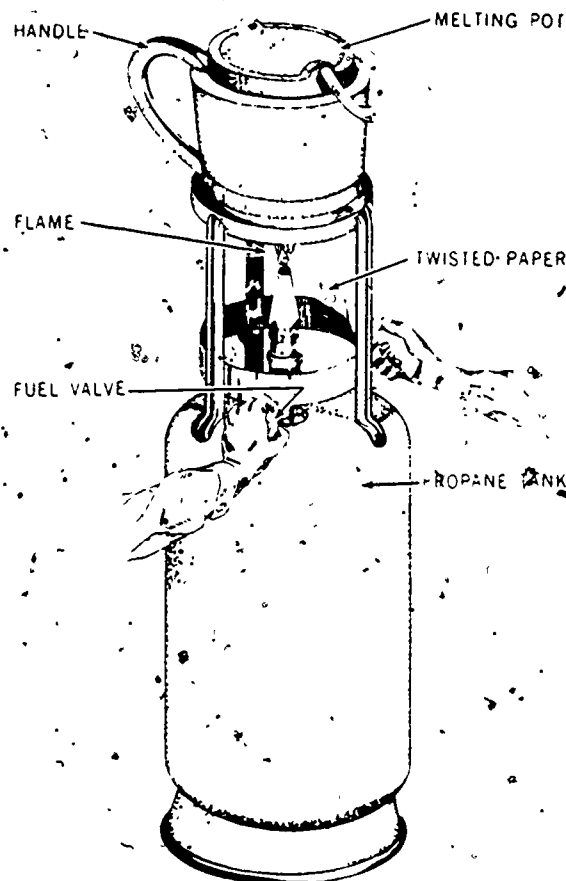

Figure 2-2. Lighting a melting furnace
The best and most efficient type of melting furnace uses liquefied petroleum gas as a fuel. This furnace consists of a burner and valve assembly which mounts directly on a portable propane gas tank. The tank is detachable and can be recharged with fuel. A propane furnace lights instantly and burns with a high temperature blue flame. This furnace should not be subjected to rough treatment, since there is always the danger of an explosion from leakage of gas at the connections and valves. You should make a thorough inspection for leaks before lighting the furnace. To light the furnace, fold or twist tightly a lighted length of paper under the burner orifice of the burner assembly as shown in figure 2-2, lighting a melting furnace. Carefully open the fuel regulating valve until the burner lights. If the valve is opened too much or too rapidly, the pressure of the escaping gas may extinguish the lighter flame. If this should happen, close the fuel valve immediately and then relight the paper before reopening the valve.
**Molten Metals.** The melting pot, shown in figure 2-2, is used to melt lead for pouring into cast-iron pipe joints. The temperature of boiling water is 212° F. Boiling water will blister your skin. Can you imagine what melted lead at 900° F. will do when it touches your skin? The melted lead can burn you more severely than the flame of the furnace. Personal injuries to others must also be avoided when carrying molten lead in a ladle, as it is easy to bump into